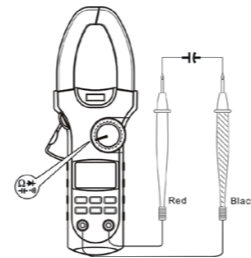

Figure 10
**H. Measuring Capacitance** (UT208A Only, See Figure 10)